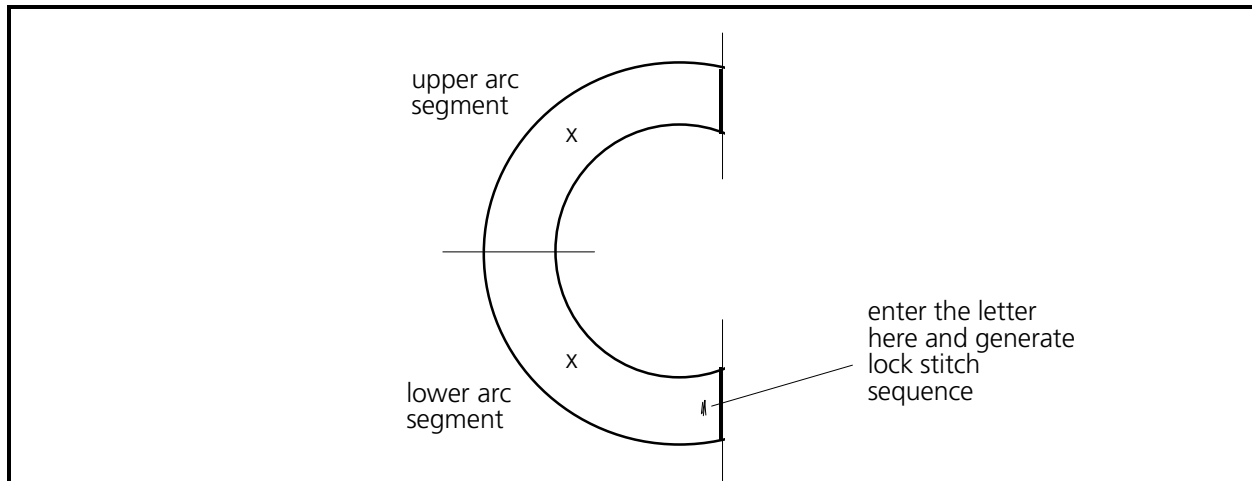

Figure 6-39
The curvature of the letter **c** is more than 180 degrees, therefore break the digitizing into 2 separate arcs. Notice that the letter is not exactly circular, but is slightly oval (see Figure 6-39).
Divide the **c** into two sections. Refer to Figure 6-39 and make the indications like the illustration.
1. Ensure the lock stitches were generated at the end of the letter **I**; then perform the needle up, Mk1, normal stitch, Mk1 sequence to move to the bottom right area of the letter **c** (see Figure 6-39).